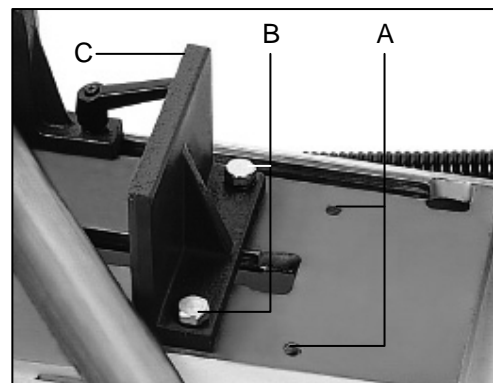
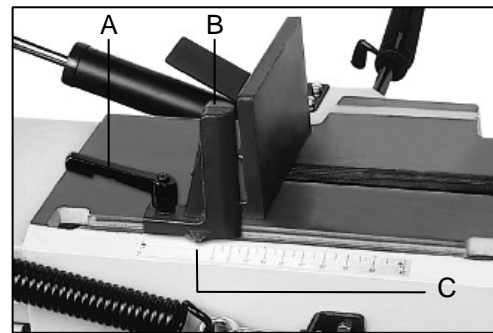

Fig. 8
Fig. 9
1. Remove the 2 Bolts (B, Fig. 8).
2. Reposition the fix vise-jaw (C, Fig. 8) to align with the secondary holes (A, Fig. 8).
3. Re-install bolts and tighten down the fixed vise-jaw (C, Fig. 8).
1. Free the independent vise-jaw. Loosen the spring ratchet handle* (A, Fig. 9).
2. Set the cutting angle. Move the independent vise-jaw (B, Fig. 9) until its index reaches the desired cutting angle on the degree scale (C, Fig. 9).
3. Lock the vise-jaw. Tighten the spring ratchet handle* (A, Fig. 9).
5. Load work piece. Place the work-piece against the fixed vise-jaw (C, Fig. 8) and independent vise-jaw (B, Fig. 9).
* Spring ratchet handle (A, Fig. 9) only tightens or loosens when handle is down or normal position. Lift the handle to reposition it without screwing action.